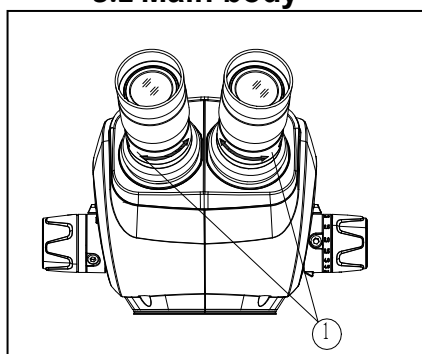

Fig 3
3.2.1. Interpupillary Distance Adjustment (Fig 3)